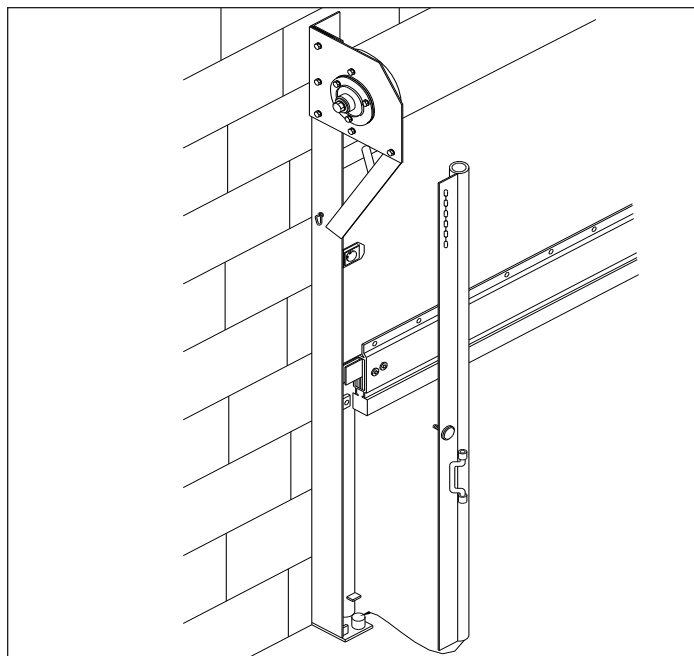

Figure 6.1
1. Install side frame covers by inserting the side frame cover on the pin located at the top of the side frame and lifting upwards. While lifting up, align the side frame cover with the lower pin and lower into position, Figure 6.1.